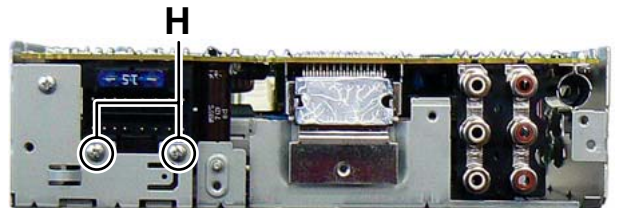

Fig.6
### 3.1.4 Removing the MAIN BOARD assembly (See Fig.6, 7)
- (1) Remove the two screws **H** and the two screws **J** attaching the MAIN BOARD assembly. (See Fig.6, 7)